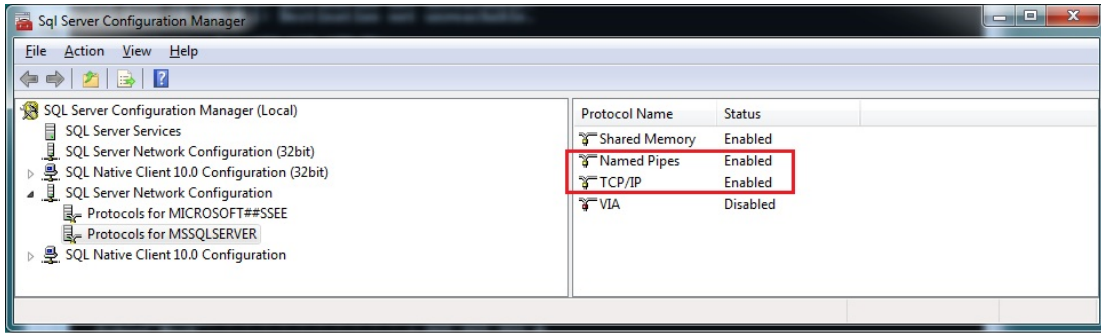

Figure 3-14
4. Verify that **TCP/IP** and **Named Pipes** are enabled. See Figure 3-14.